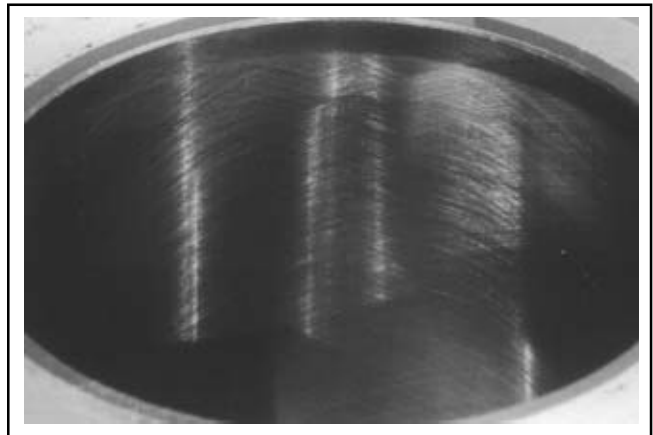

Figure 10-3. Cylinder Bore Crosshatch after Honing.
3. When the bore is within **0.064 mm (0.0025 in.)** of the desired size, remove the coarse stones and replace them with burnishing stones. Continue with the burnishing stones until the bore is within **0.013 mm (0.0005 in.)** of the desired size and then use finish stones (220-280 grit) and polish the bore to its final size. A crosshatch should be observed if honing is done correctly. The crosshatch should intersect at approximately 23°-33° off the horizontal. Too flat an angle could cause the rings to skip and wear excessively, and too steep an angle will result in high oil consumption. See Figure 10-3.